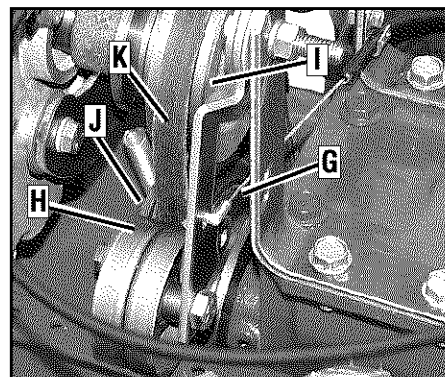

Figure 5-15: Forward clutch control assembly.
The forward clutch belt (K, Figure 5-15) engages the engine pulley (I) and the transmission pulley (J) when either Forward Clutch Control Lever is pulled up against the handlebar. The lever draws the forward clutch cable (G) tight which causes the forward clutch idler pulley (H) to apply pressure to the forward clutch belt. This causes the pulleys to turn for Forward movement.